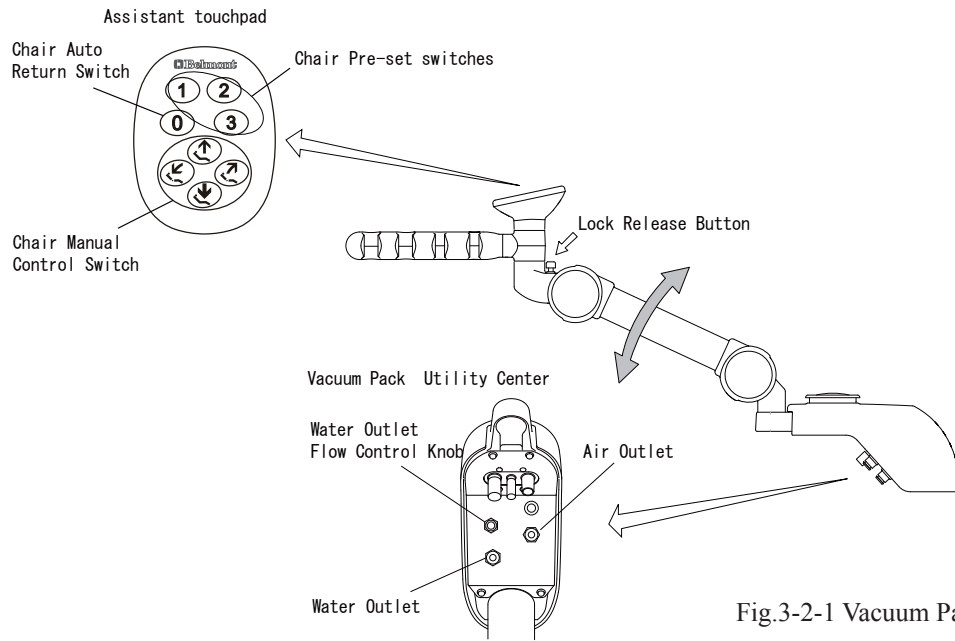

Fig.3-2-1 Vacuum Pack Section
(1) Assistant Touchpad (Fig.3-2-1)
(2) Vac Pac Utility Center(Fig.3-2-1)
A. Water Outlet with flow control(Fig.3-2-1)
B. Service Water Outlet Control Knob (Fig.3-2-1)
C. Service Air Outlet (Fig.3-2-1)
(3) Vacuum Pack height Adjustment (Fig.3-2-1)